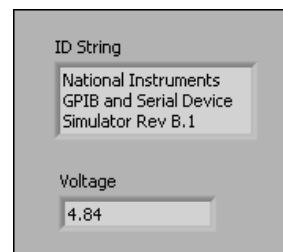

Figure 9-13. IIOAGPIB VI Front Panel Window
8. Display the front panel window. The front panel window should be similar in Figure 9-13.